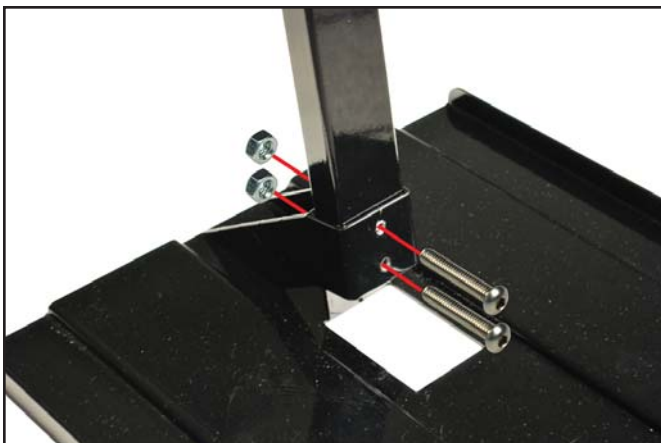

Figure 4. Securing the pedestal to the baseplate
- II. Using the supplied allen wrench, install the two supplied socket cap screws and nuts (see Figure 4).